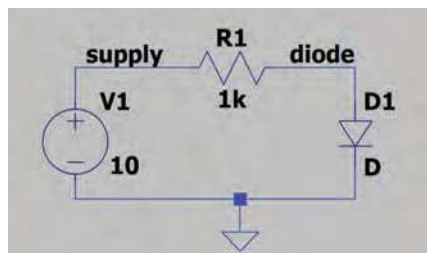
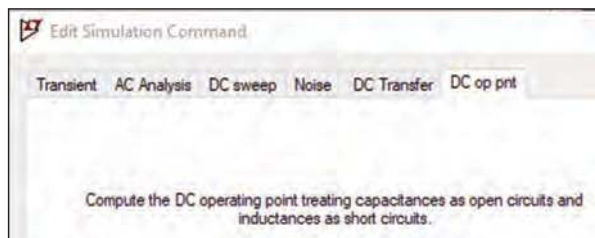

Fig.1. LTspice circuit: diode and resistor.
Fig.2. Selecting the DC operating point command.
The LTspice schematic in Fig.1 comprises a diode connected across a 10V supply via a 1k Ω resistor. With the diode and supply oriented as shown, and the supply set to 10V, the diode is forward biased. Using the usual rule of thumb, we might expect about 0.7V across the diode, implying about 9.3V across the resistor and hence a current of about 9.3mA through the circuit. This calculation of DC currents and voltages in a circuit is related to a SPICE DC operating point analysis. Specifically this involves finding the DC voltages and currents with capacitors treated as open circuits and inductors as short circuits.
SPICE simulators do not solve circuits (to find the operating point) using algebraic manipulation of equations, as one might try on paper. In fact, a simple algebraic approach only works for linear circuits (eg, resistors). The non-linear nature of the circuit in Fig.1 means that simple algebraic approaches cannot be used to solve the circuit (find the voltage across the diode and resistor, and the current through them). The diode is described as 'non-linear' because its current-voltage relationship is not a straight line when plotted on a graph. For manual calculation, the well-known approach to solving the circuit in Fig.1 is to use a graphical technique. To do this, the diode characteristics and the resistor's 'load line' are plotted on the same graph. The point where these lines intersect is the DC operating point.
To try the operating point analysis, start LTspice and either draw and save the circuit in Fig.1, or download and open the schematic file from the *EPE* website. V1 is configured as a DC voltage source with voltage of 10V. To set this up, add the voltage source, right click it and set DC Value(V) to 10. You do not need the advanced settings, but if you do open this then only the DC Value section is set up – other sections are blank or 'none'. To run the operating point calculation do `Simulate > Edit Simulation Cmd` from the main menu and select the DC op pnt tab. There are no settings or parameters to enter (see Fig.2).